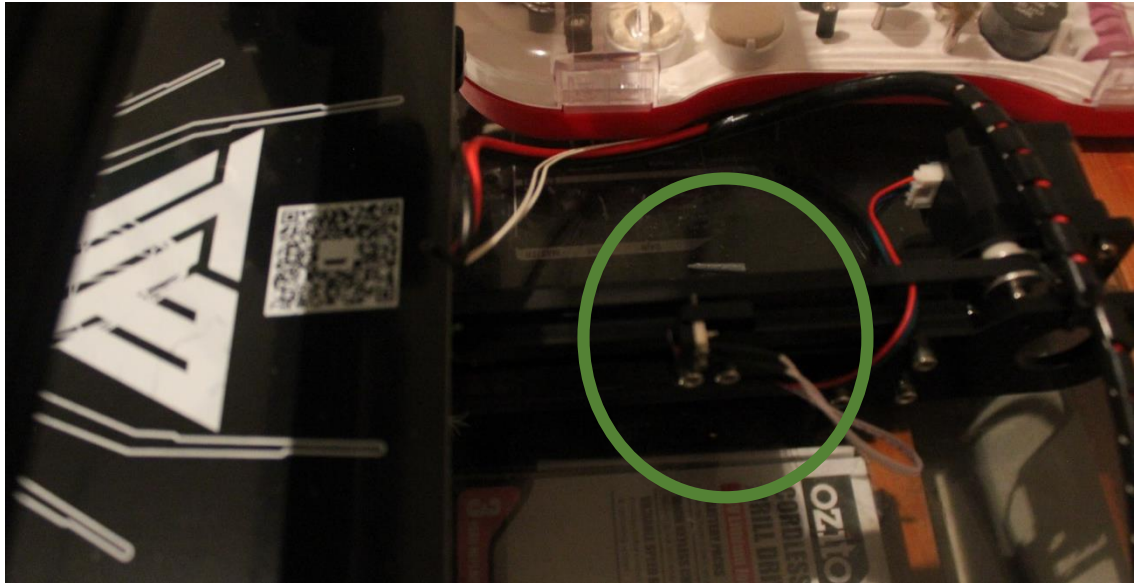

Figure 5
8. The position of the y-axis end stop should be at the back of the printer, and the y-axis motor should be on the left side of the printer when looking from the front of the printer. (Figure 5)